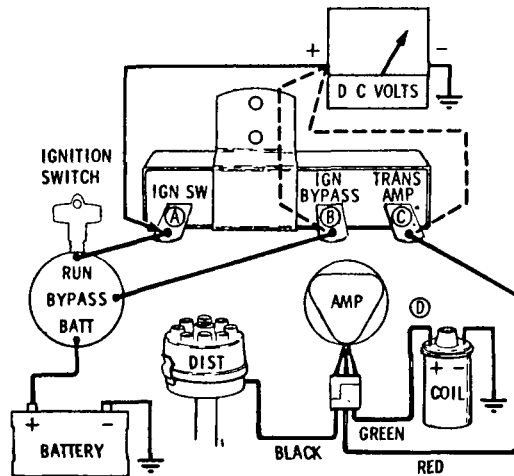

Figure 5
- II. Connect the voltmeter as shown in Figure 5. With the ignition "ON", engine not running, distributor breaker points "OPEN", and all accessories turned "OFF", the voltmeter should read 9.5 volts or more (battery voltage) on all three ballast resistor terminals. Any marked deviation from the voltmeter reading indicates one of the following conditions may exist and must be corrected.
connections and be sure there are no other connections at the ballast resistor other than what is shown in Figure 5.